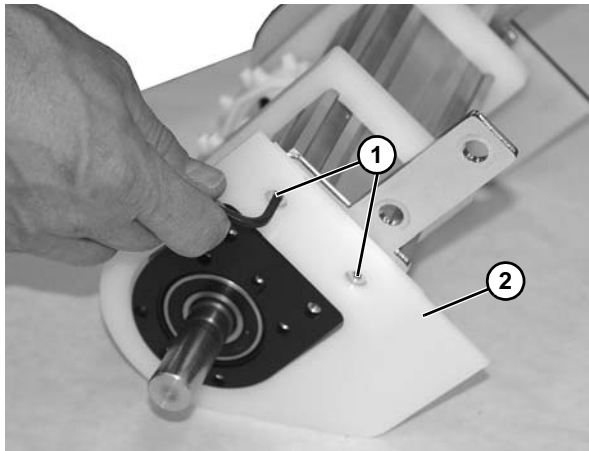

Figure 51
7. Remove two socket head screws (**Figure 51, item 1**) from drive filler plate (**Figure 51, item 2**).